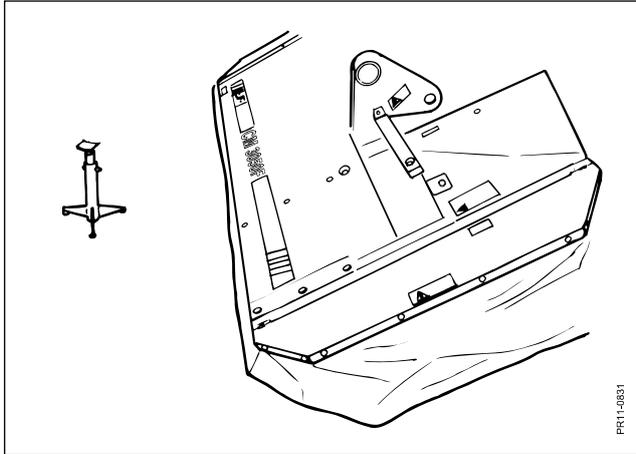

Fig. 5-3
- Fig. 5-3** Tip the machine so that it rests on the two rubber buffers at the front of the machine.